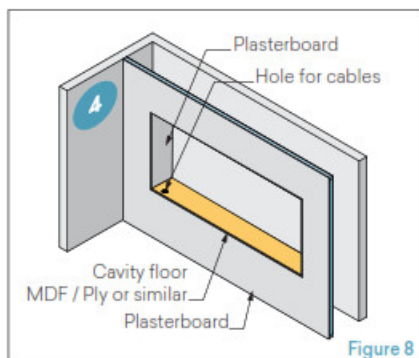

Figure 8
4. Finish the wall off using plasterboard or timber board on the wall panels and timber board on the cavity floor. (Figure 8) It is important to use a timber board with a minimum thickness of 16mm for the cavity floor. A hole for the speaker cabling is best placed at the front corner of the cavity floor.